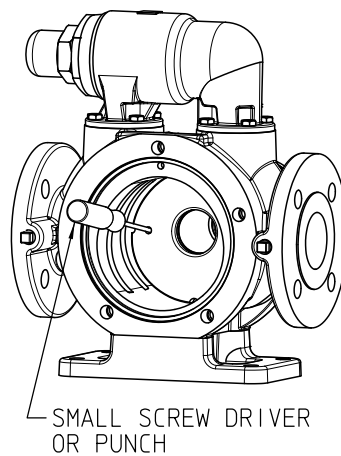
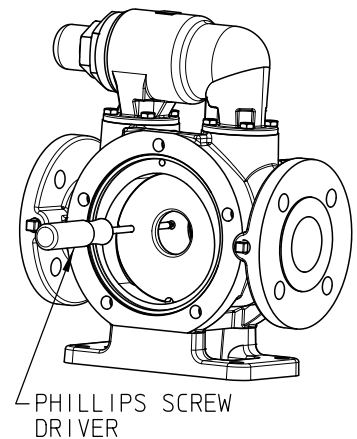

FIGURE 5
FIGURE 6
4. Remove the first carbon disc using caution not to break. See **figure 5**.
10. Carefully remove the second carbon disc from the casing. If the casing disc is jammed, a small screwdriver or punch may be used as shown in **Figure 5**. Use the screwdriver to help guide the disc out of the casing cam bore as shown in **Figure 6**.